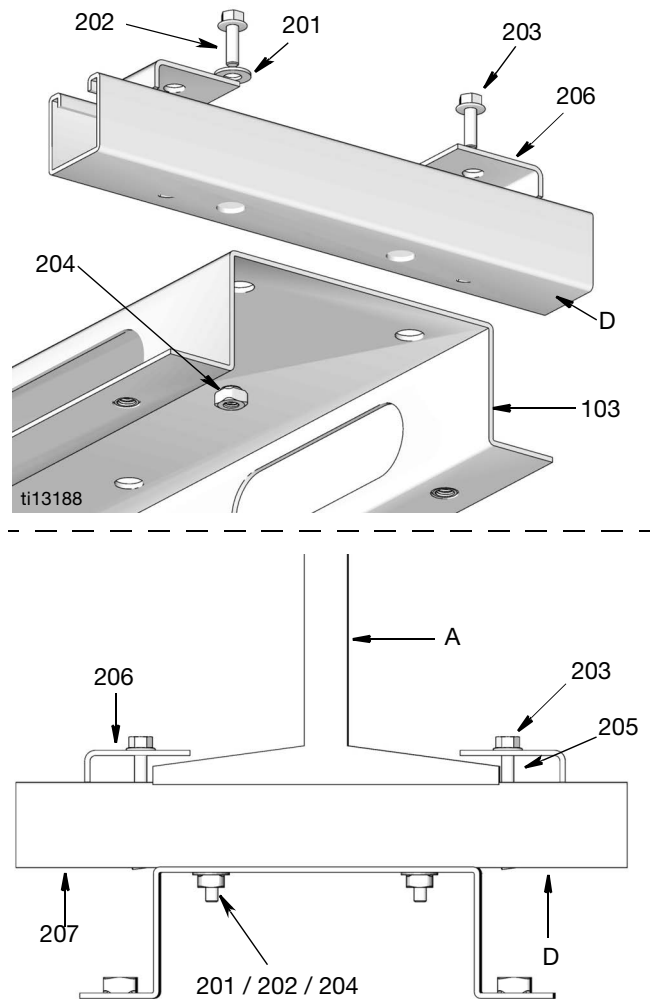

FIG. 8
1. Secure mounting brackets (D) to the channel.
2. Position the adjustable clamps (206) of the mounting brackets over the I-Beam (A), and tighten them securely (FIG. 8).